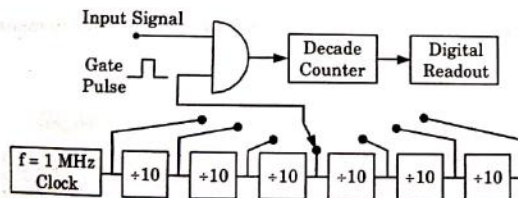

Fig. 4.14.2. Block diagram of electronic counter frequency mode.
2. A block diagram of an electronic counter operating in the frequency mode is shown in Fig. 4.14.2. The frequency of the input signal is computed as